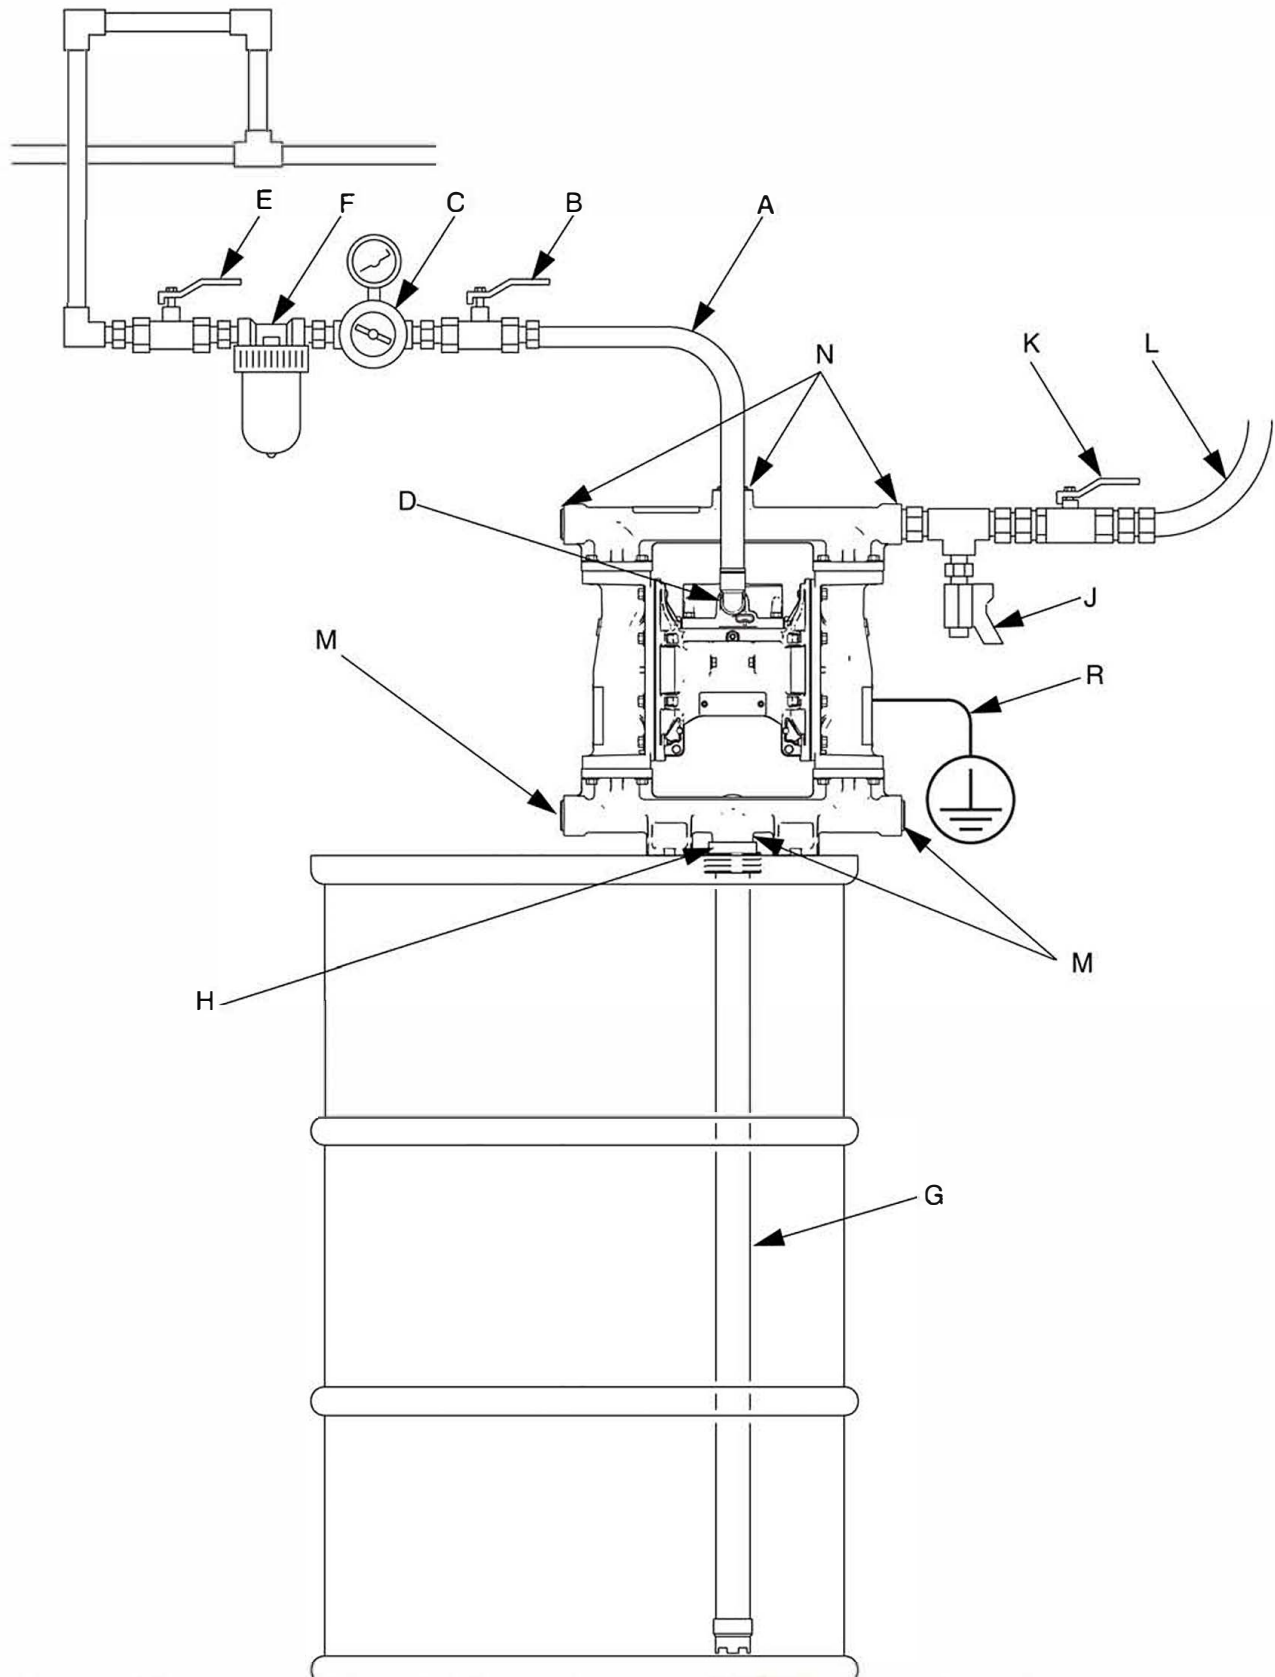

FIG. 3. Typical bung-mount installation (aluminum, 1050A, pump shown)
The Typical Installations shown in FIG. 3 and FIG. 4 are only guides for selecting and installing system components. Contact your **ESCO** distributor for assistance in planning a system to suit your needs.
See FIG. 3 and FIG. 4.
See FIG. 3 and FIG. 4
Key for FIG. 3 and FIG. 4:
- M Fluid inlet (Aluminum, FIG. 3, four ports, one not visible; Plastic, FIG. 4, center or end flanges available; Stainless Steel, not pictured, one port)
- N Fluid outlet (Aluminum, FIG. 3, four ports, one not visible; Plastic, FIG. 4, center or end flanges available; Stainless Steel, not pictured, one port)